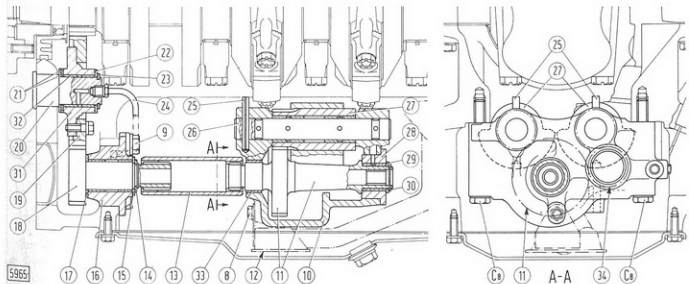
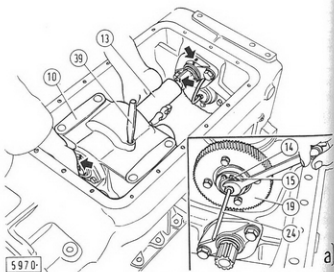

Fig. 32 - Sectional View of Flyweight Type Dynamic Balancer
Fig. 36 - Refitting the Dynamic Balancer
- Take off oil pump scoop, retaining screws (C₈, Fig. 32) and take out the weight assemblies.
- Secure drive gear (18, Fig. 32) to the sump, with the reference marks aligned as shown in Fig. 36.
- Lock the weights in position with pin (39) and check reference mark alignment.
- Place sleeve (13) in position and tighten the retaining screws to the specified torque.